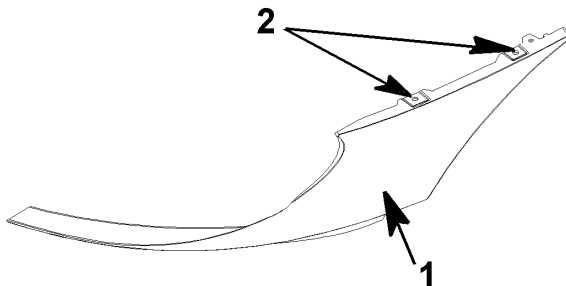
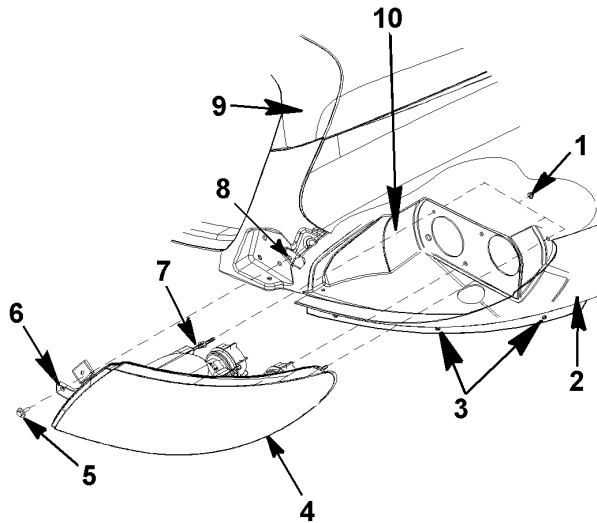

Figure 26 Fender Valance— Lower Section
Figure 27 Headlight Assembly
3. Locate the valance mounting screws along the fender flange, and headlight assembly attachment screws attaching the headlight assembly mounting holes in the valance assembly (Item 3, Figure 27).
4. Remove the (2) headlight assembly mounting screws located along the lower edge of the valance.
5. Remove the valance mounting screws located in the mounting holes (Item 2, Figure 26) along the inside flange between the fender flange and the valance flange assembly.
1. Beginning with the valance assembly, locate the mounting holes in the fender flange. Align the valance assembly mounting holes (Item 2, Figure 26) in position with the holes in the fender flange.
3. Tilt hood to original position. Loosen and remove the headlight assembly mounting bolt (Item 5, Figure 27) from the fender assembly mounting hole (Item 7, Figure 27).
Refer to Figure 27 for Items in parentheses.